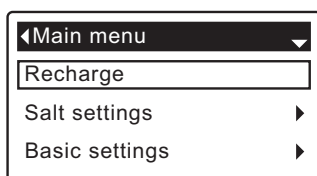
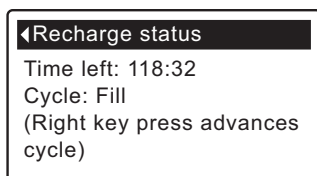

FIG. 33
FIG. 35
2. Make sure **Recharge** is highlighted (See Figure 33).
5. Press the OK/MENU button. If **Recharge now** is selected, the display immediately goes to the Recharge status screen (See Figure 35). If **Automatic** or **Schedule** are selected, the display goes back to the Main menu (Figure 33).